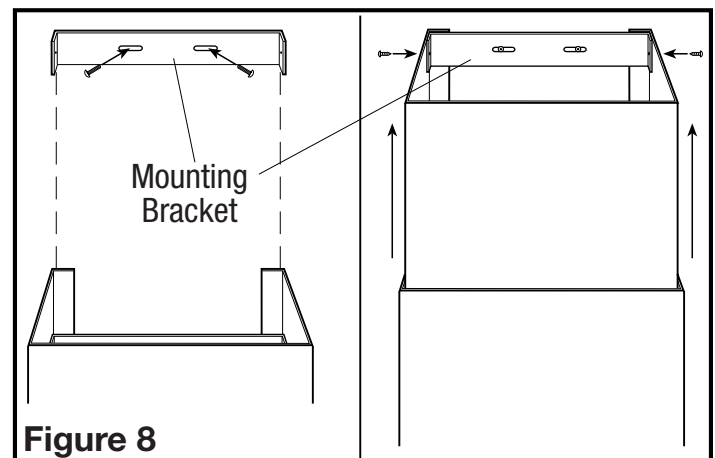

Figure 8
4. To install the upper section, mark the location of the included horizontal mounting bracket using the bracket as a template. Make sure the bracket is level and in line with the bottom section. The height will be dependent on your installation requirements. Make sure the slots in the side of the chimney will match the holes in the mounting bracket. If installing onto drywall, drill holes into wall using a 3/16" drill bit. Install wall anchors into the drilled holes (one for each hole). Secure bracket into place with (2) provided #6 x 1" screws. If installing into other material (brick, cement, plaster, etc.) choose an appropriate fastener capable of supporting the weight of the chimney (**Figure 8**).
5. Raise top chimney in place over horizontal mounting bracket and secure in place with the two included #6 x 3/8" screws (Figure 8).